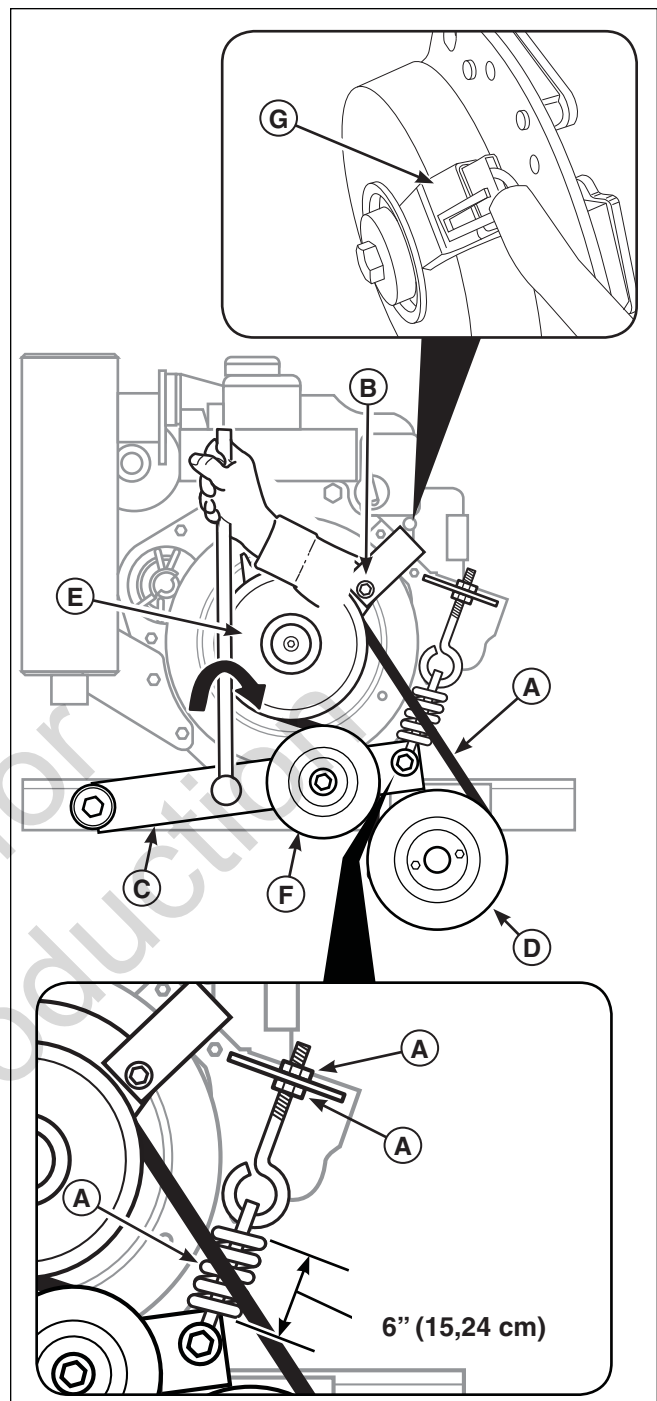

Figure 55. PTO Clutch Belt Replacement
2. Open the hood to gain access to the PTO clutch belts (A, Figure 55) which is located on the rear of the engine.
3. Remove the PTO clutch anchor bolt (B).
4. Disconnect the PTO clutch wire harness (G).
5. Using a 1/2" breaker bar, place the square end in the square hole located in the end of the idler arm (C). Carefully rotate the breaker bar **CLOCKWISE**, which will relieve tension on the breaker bar.
6. Slide the PTO clutch belts over the edge of the gearbox pulley (D). Carefully release the tension on the breaker bar.
8. Install the new PTO clutch belts on the PTO clutch (E) and the idler pulley (F). Carefully rotate the breaker bar **CLOCKWISE** and install the pulley on the gearbox pulley (D). Carefully release the tension on the breaker bar.
9. Reinstall the PTO clutch bolt (B).
10. Reconnect the PTO clutch wire harness (G).
1. Measure the idler arm spring (A, Figure 55) as shown in Figure 55. The spring should measure 6" (15,24 cm).
2. If the measurement does not equal 6" (15,24 cm) loosen the jam nut (B) and turn the spring adjustment nut (C).